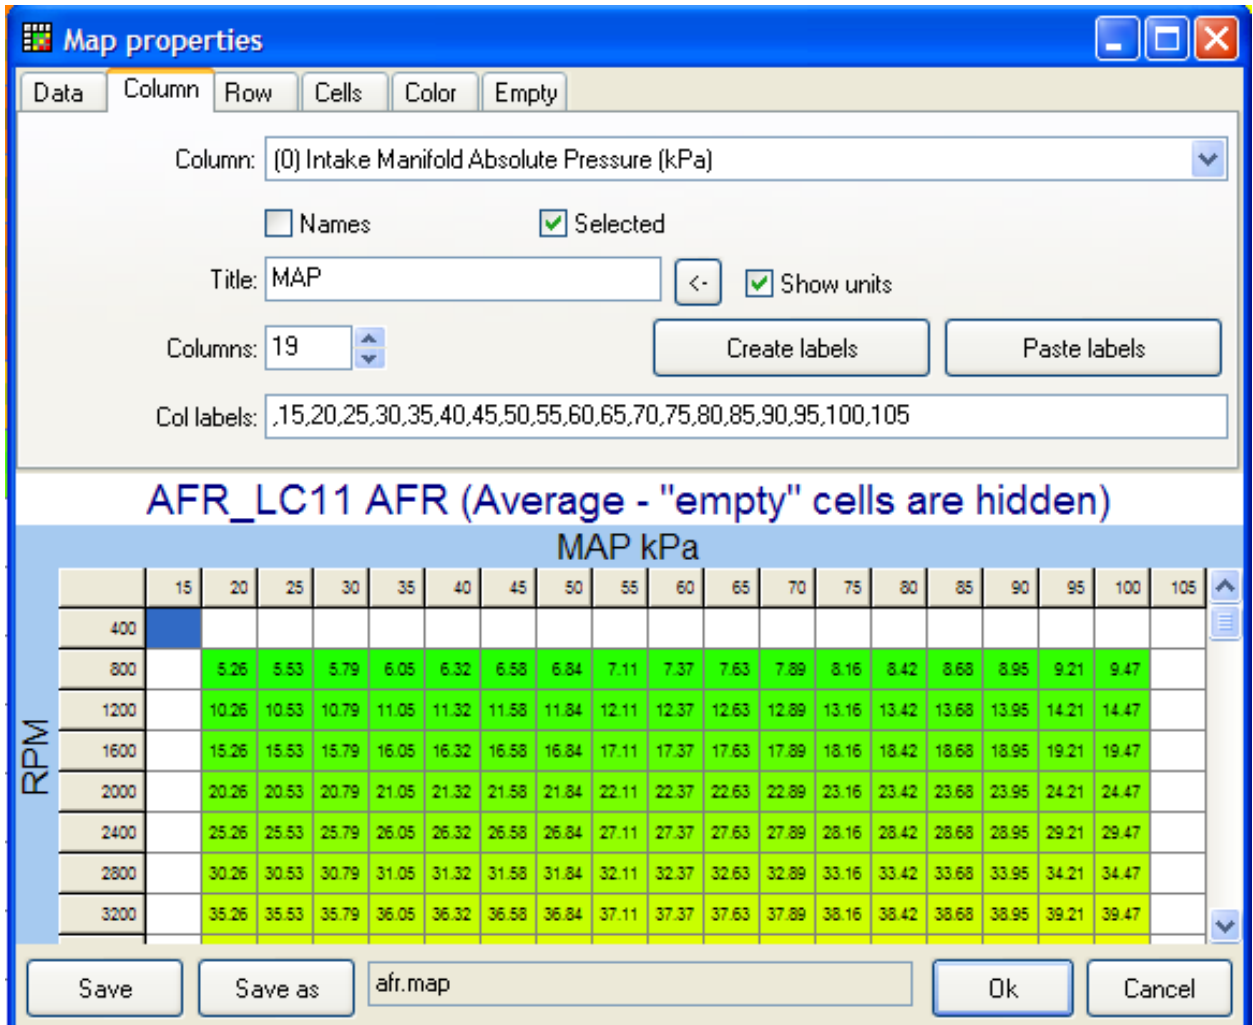

Figure 6: AFR Map Creation – Column
- 5. Select as data shown in Figure 6.